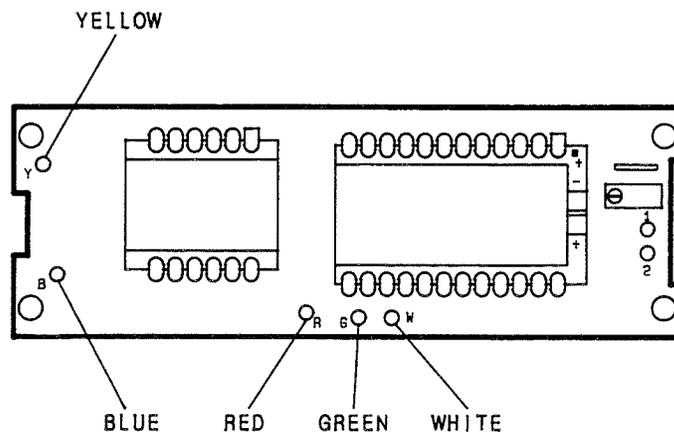

Figure 3. Circuit Board Power Supply Check Points.
- b. Check the power supply voltages shown in Figure 3. Because +15V and -12.6V are supplied by the analyzer, these voltages are specified in the analyzer manual. The +8V should be $+8.3 \pm 0.5V$; the -5V should be $-5 \pm 0.5V$.